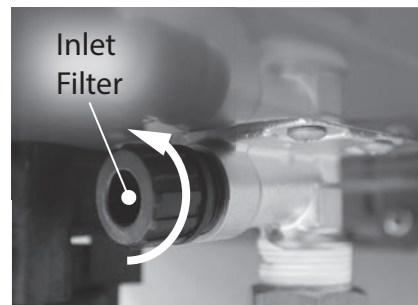

Figure 221 - Locate and remove inlet filter
- 8 Locate and remove the inlet filter as shown in Figure 221 to drain any residual water left in the system.